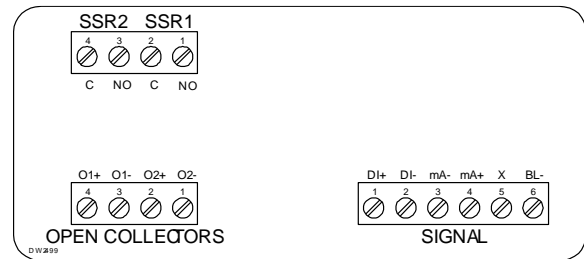
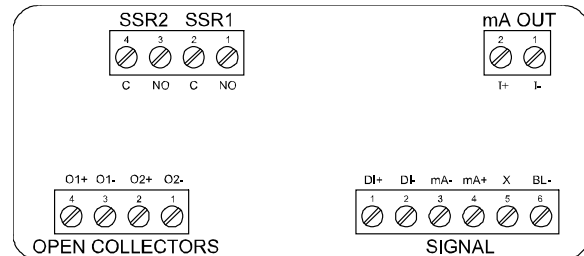

Figure 6. Connector Labeling for 348-0094 with 2-Solid State Relays
Figure 8. Connector Labeling for 348-0096 with 2 Solid State Relays & 4-20 mA Output
Relay connections are made to a four-terminal connector labeled SSR1 and SSR2 on *Figure 6*. See *Connector Labeling for 348-0094 with 2-Solid State Relays* and *Figure 8*. See *Connector Labeling for 348-0096 with 2 Solid State Relays & 4-20 mA Output* on page 16. Each relay's C terminal is common only to the normally open (NO) contact of the corresponding relay.